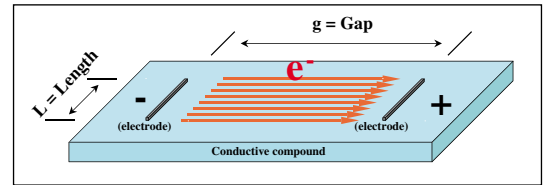

Figure 5: Surface Resistivity Test
- Surface Resistivity (SR) in Ohm/sq (Figure 5)
Surface resistivity is measured according to Cabot Test Method (CMT) E042, based on the norm IEC167 (Figure 5).